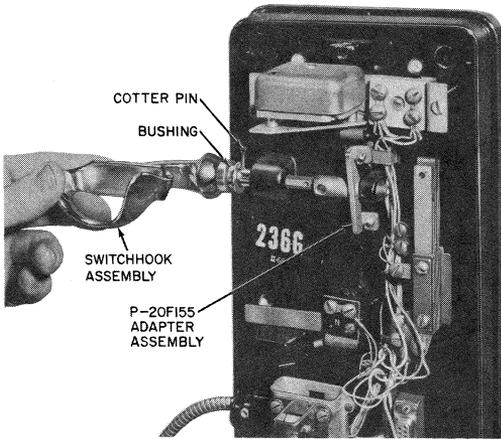
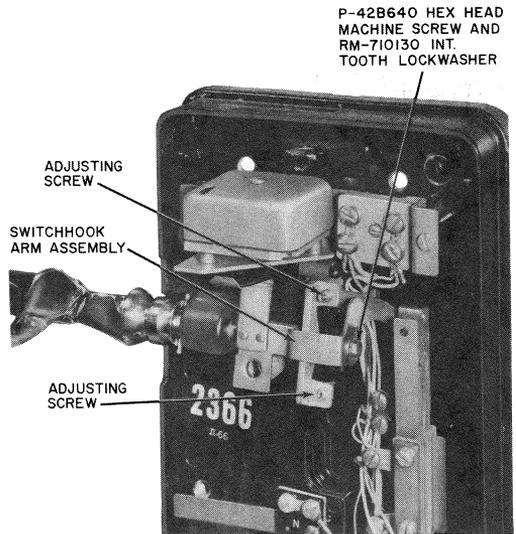
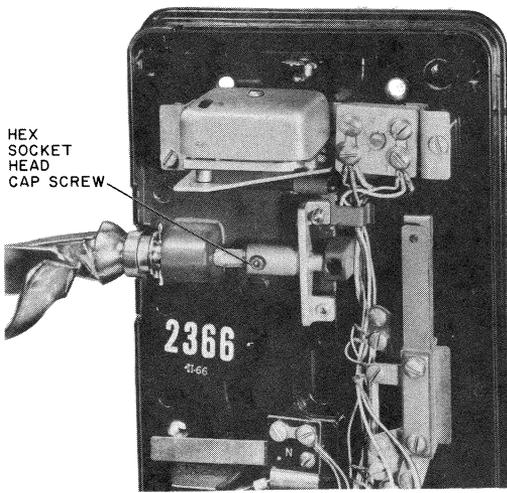

Fig. 26—Installation of Adapter Assembly and Switchhook Assembly
Fig. 28—Installation of Switchhook Arm Assembly
Fig. 27—Method of Securing Adapter to Switchhook Assembly
(3) Secure bushing on shaft with a cotter pin (Fig. 26).
(4) Slide the P-20F155 adapter assembly into right bearing (Fig. 26).
(5) Slide switchhook assembly with bushing installed through left bearing to mate with adapter assembly.
(6) Secure adapter to shaft with hex socket head cap screw (Fig. 27) which is furnished with kit.
(7) Install P-297872 spring washers as required to reduce excessive end play. End play of switchhook shaft shall not exceed 1/32-inch.
(8) Place switchhook arm assembly (Fig. 28) retained in 2.32 over switchhook shaft and secure to end of adapter shaft with lockwasher and hex head machine screw. Install tension spring.
2.37 Adjust switchhook travel with the two adjusting screws (Fig. 28) to meet contact spring pile up requirements and check switchhook operation per Section 506-310-100.